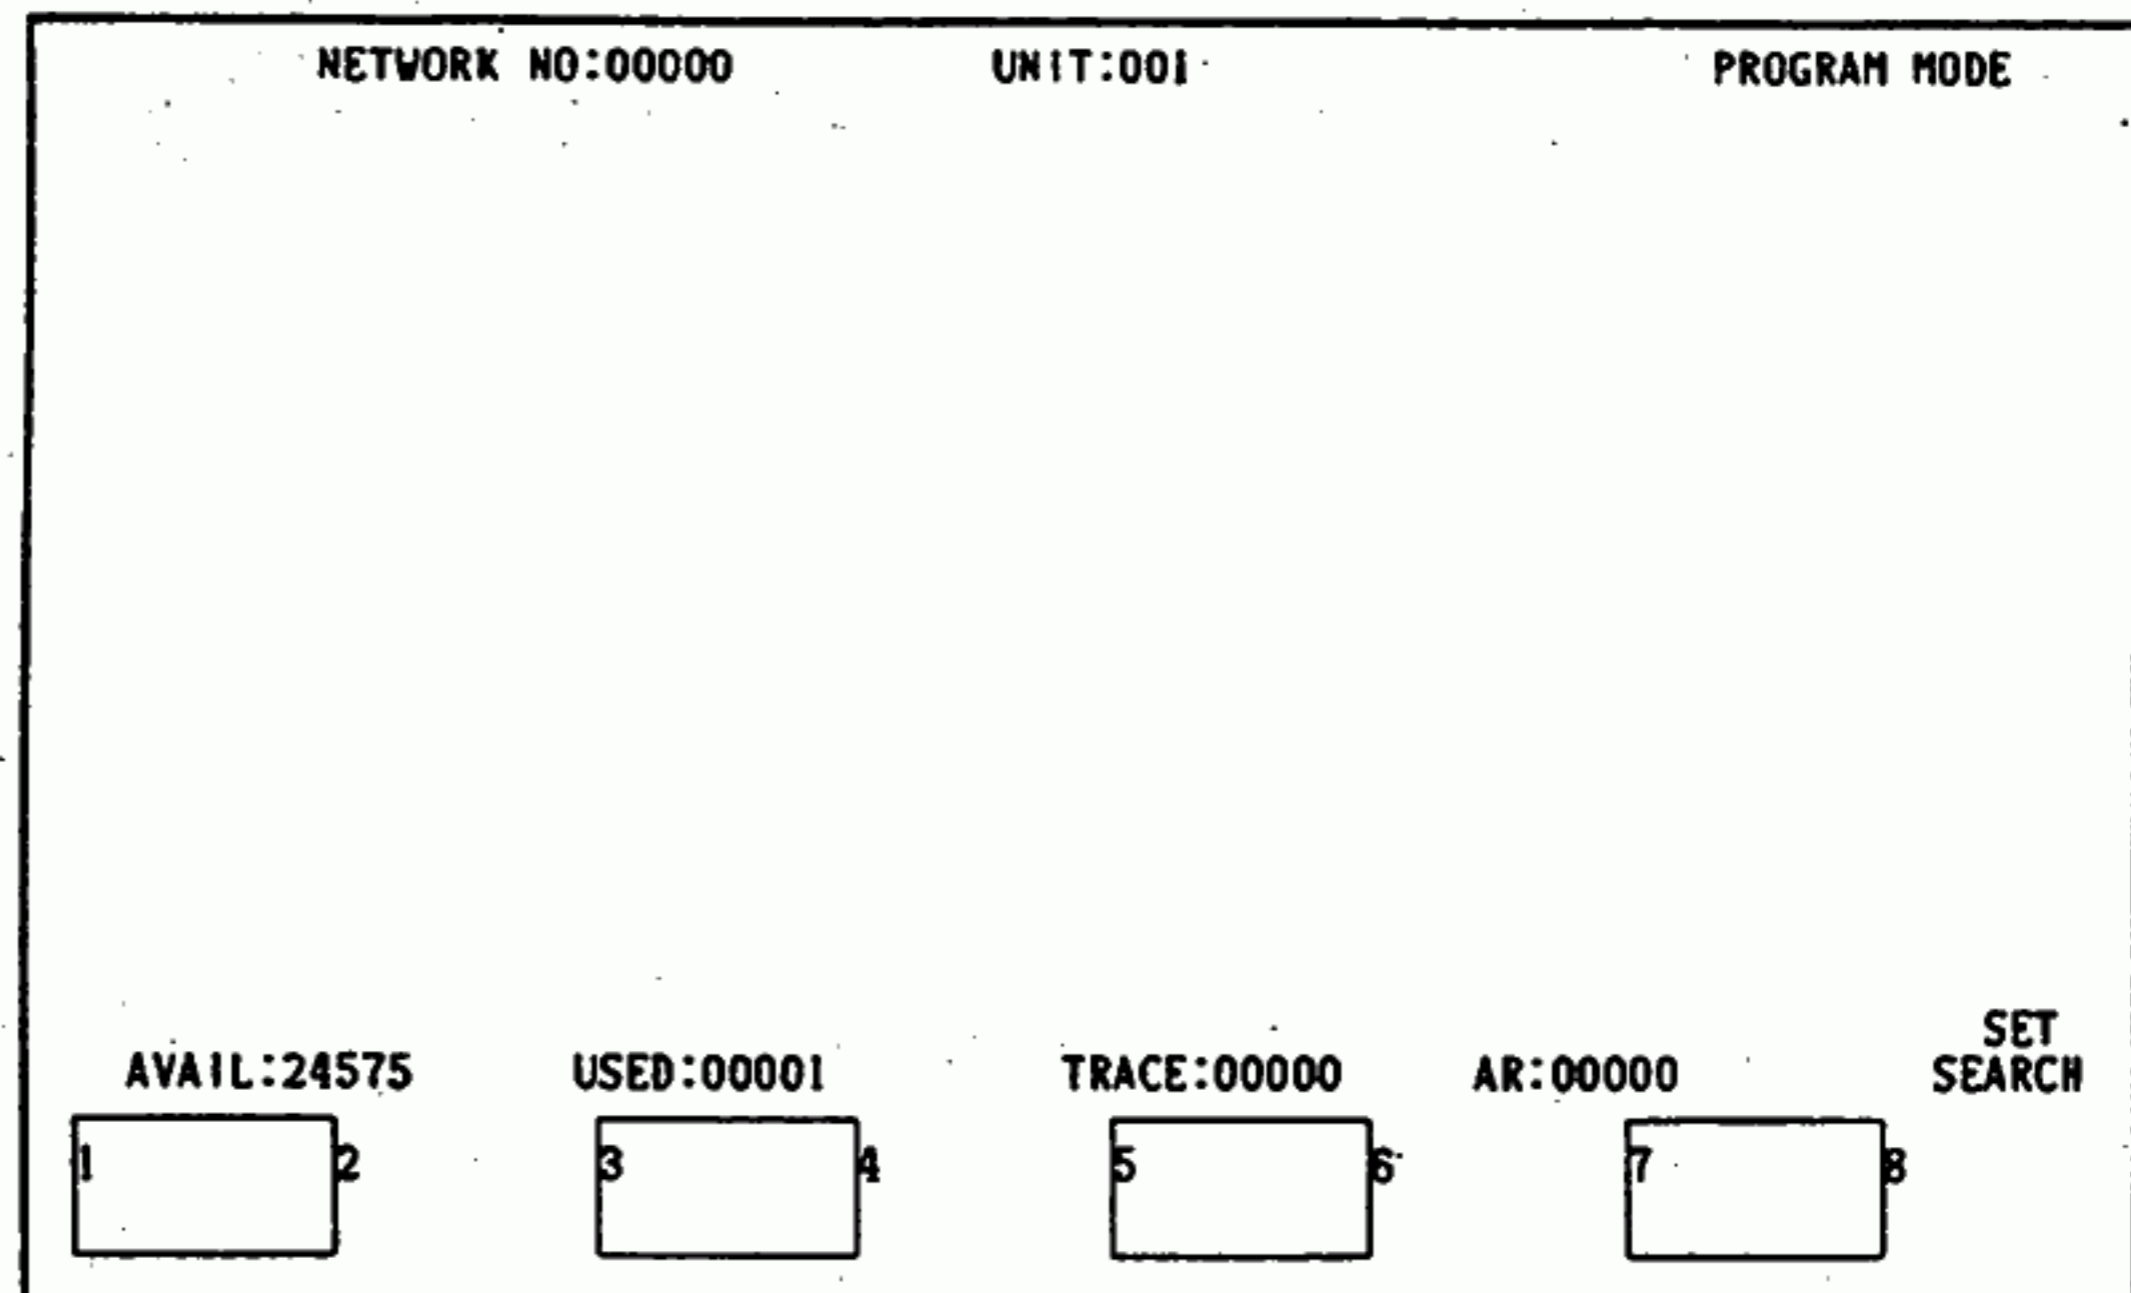

Fig. 4.16
4. With the display shown in Fig. 4.16, the programmer can be operated. Either "PROGRAM MODE" or "MONITOR MODE" is displayed in the upper right area of the screen, according to the selected mode.
3. Deppressing **PROGRAM** key restores the logic display. When programs are already stored, network 1 is displayed, and when nothing is stored, network 0 (Fig. 4.16) is displayed.